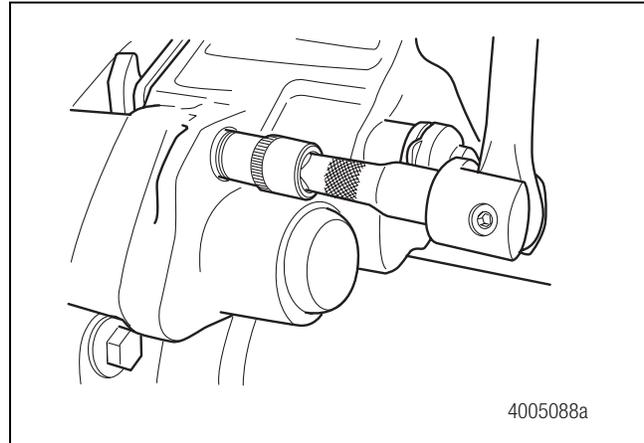

Figure 5.16
- Use the correct size socket to remove the four bridge bolts. Figure 5.16. Discard the bridge bolts after they have been removed. They are no longer usable.